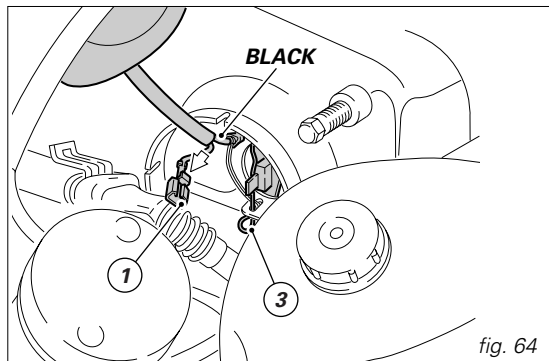

fig. 64
remove the rubber cover. Press the lower quick-release button to disconnect the connector (1, fig. 64).
The black ground cable connector does not need to be disconnected to replace the headlamp bulbs. Release the clip (3) that secures the bulb and remove it from the socket (fig. 64 and 65). Replace the bulb.